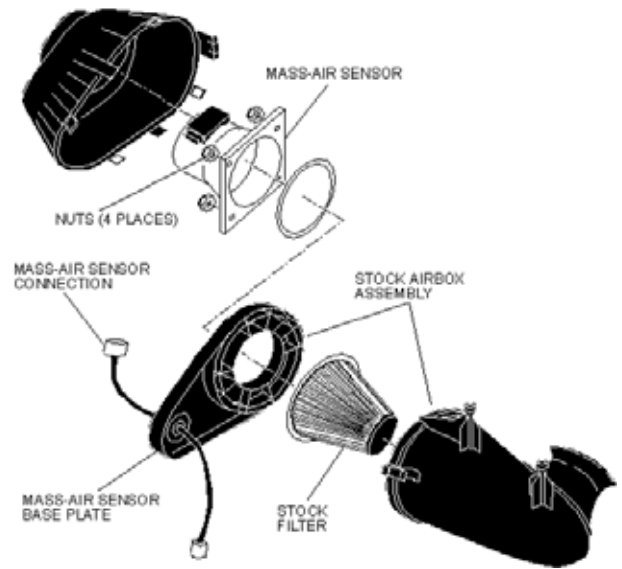

fig. 1
- 5) Unclip the airbox and remove the mass-air sensor which is held by four nuts (see fig. 1).
- 6) Remove the intake hose from the airbox, also remove the mass air connection from the mass air base plate (see fig. 1).